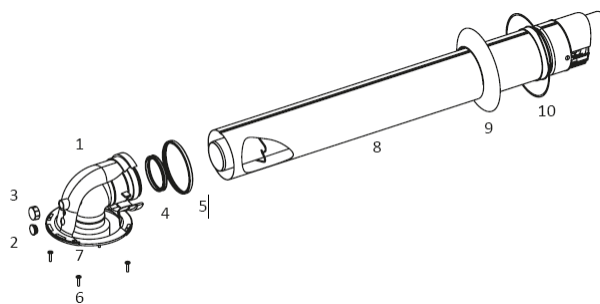

Figure 2. Flue Kit
- ✓ The hermetic flue set is delivered in a carton box separate from the unit. The standard hermetic flue set ( 60/100 or Ø 80/125) consists of the following components (Figure 2).